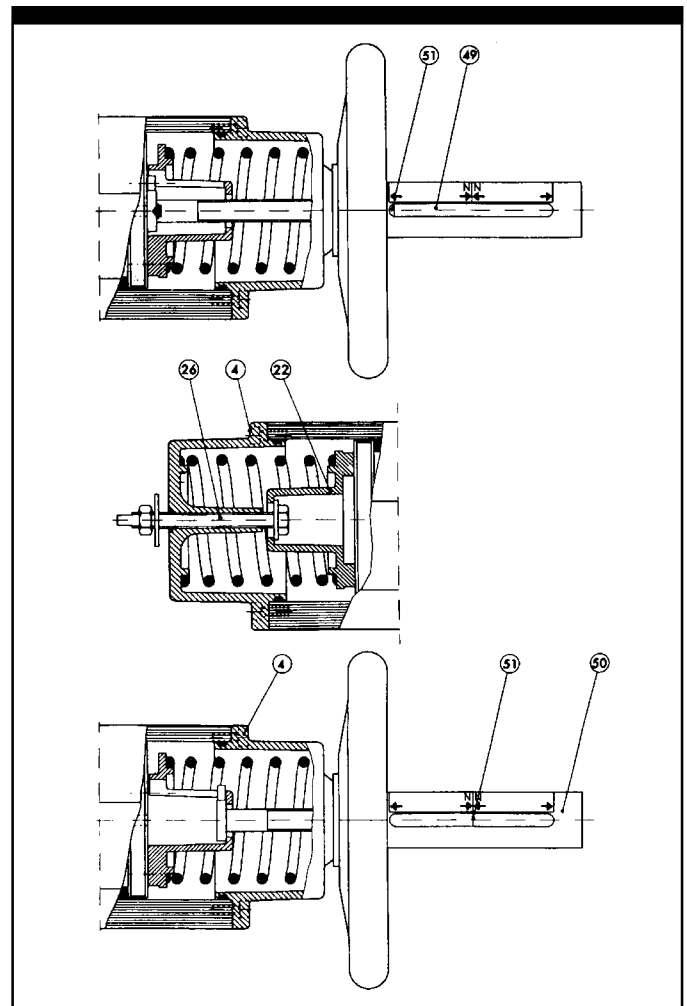

Figure 5
2. Confirm that the springs are fully extended as shown in figure 5. This can be confirmed by observing that the flats on the top drive shaft are 90° to the actuator axis on a "Fail Close" (fails CW) when viewed from the top of the actuator and parallel to the axis on a "Fail Open" (fails CCW) when viewed from the top of the actuator.
3. Turn the handwheel so that the threaded stem (51) moves toward the actuator until it stops and the stem can just barely be seen in the plastic tube (49).
4. For sizes RC 220, 240, 260 and 280 (i.e. actuators with two pistons): adjust the tensioning screw (26) in the opposite spring housing counter clockwise until it contacts the spring guide (22). Remove the spring housing by removing the screws (4).
5. Turn the handwheel until there is resistance and the threaded stem (51) can be seen slightly to the right of neutral position "N" (see figure 5).
6. Remove the spring housing of the manual override by removing the retaining screws (4) and turn the handwheel several turns in the direction which gives the least resistance.